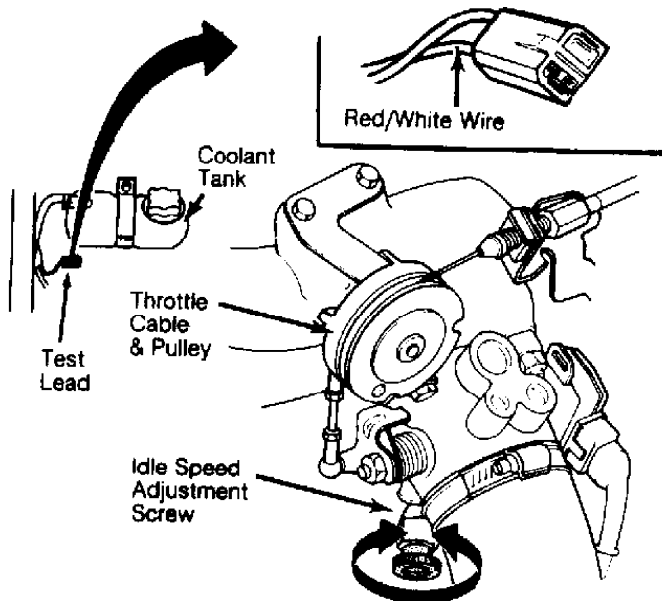

Fig. 1: Adjusting Basic Idle Speed (940)
1) Ground Red/White wire in 2-wire test lead. See Fig. 1. Test lead is located on right side of master cylinder. Grounding wire will set air valve wide open.